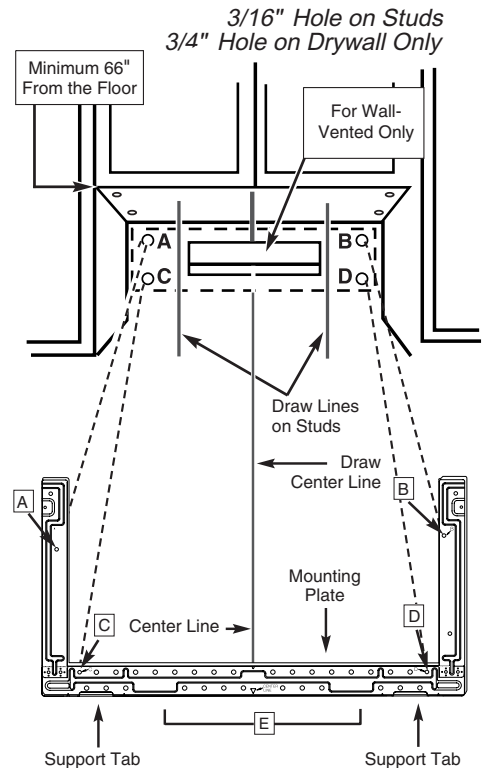
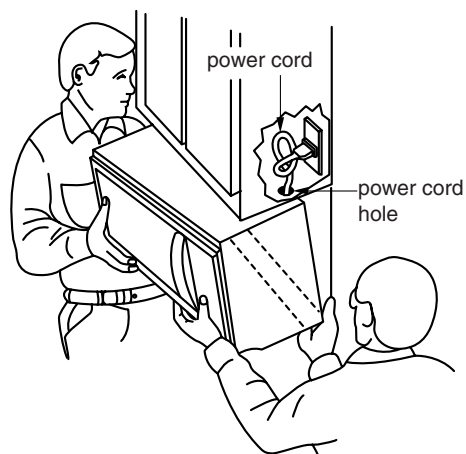

Figure 26
Figure 30
2. While holding the mounting plate with one hand, draw circles on the wall at holes "A", "B", "C" and "D". Four holes must be used for mounting. If the holes are not used, the installation will not be secure. Installer must use these holes for proper installation. Use toggle bolts through these holes unless one of them lines up with a stud. Use a wood screw for studs. See **Figure 26**.
1. Carefully lift microwave oven and hang it on support tabs (See **Figure 26**) at the bottom of the mounting plate. Reaching through upper cabinet, thread power supply cord through the power supply cord hole in the bottom of the upper cabinet. See **Figure 30**.